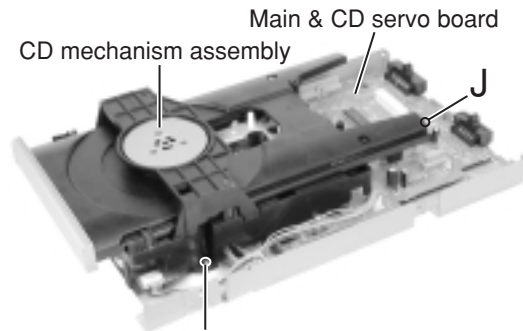

**Fig. 11**
**■Removing the tuner board (See Fig.11)**